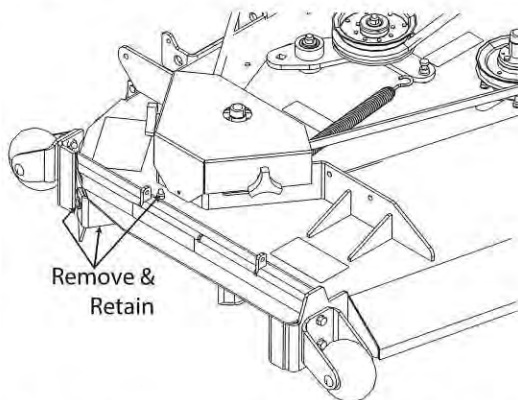

Figure 3-8. Removing the Turbo Baffle
3. Remove the turbo baffle from the cutter deck. See Figure 3-8.